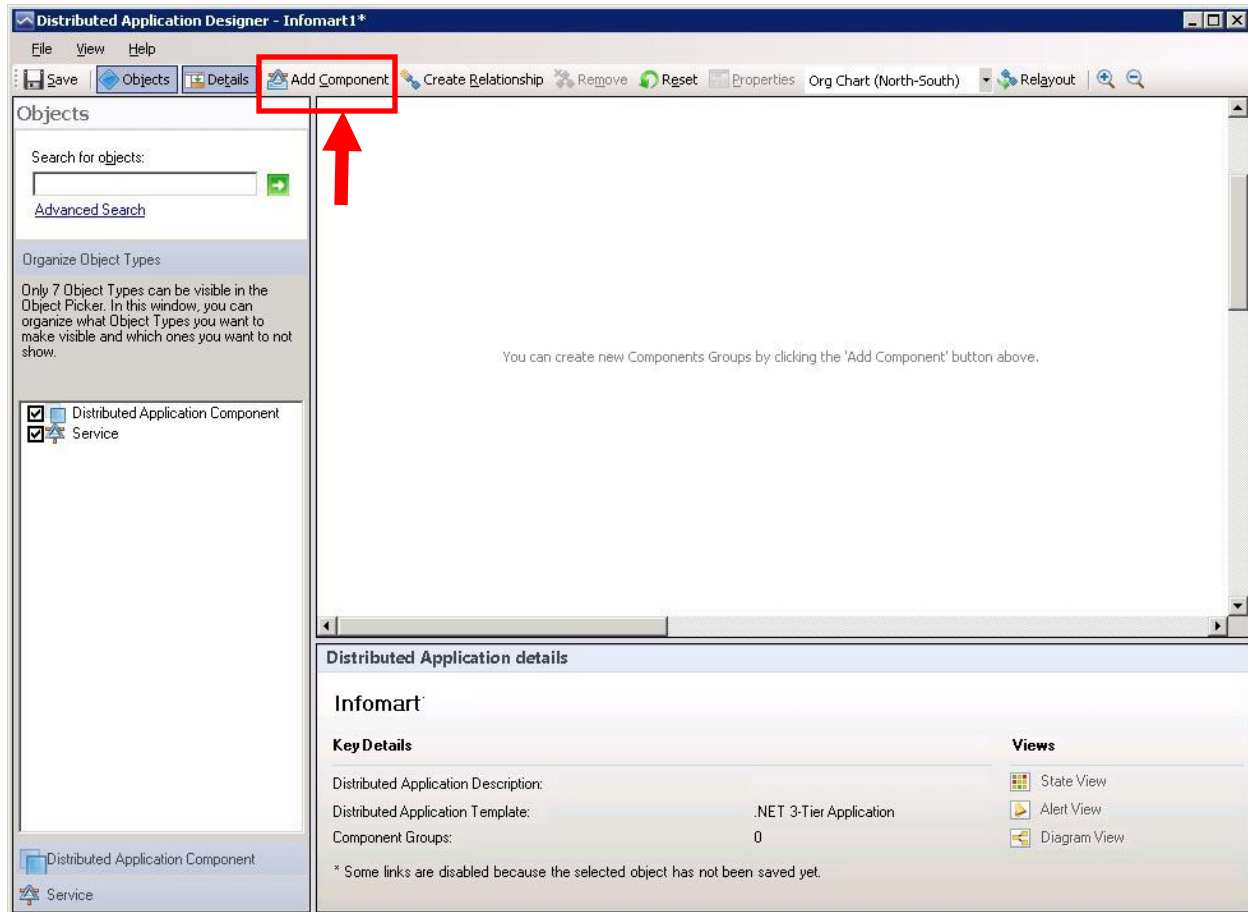
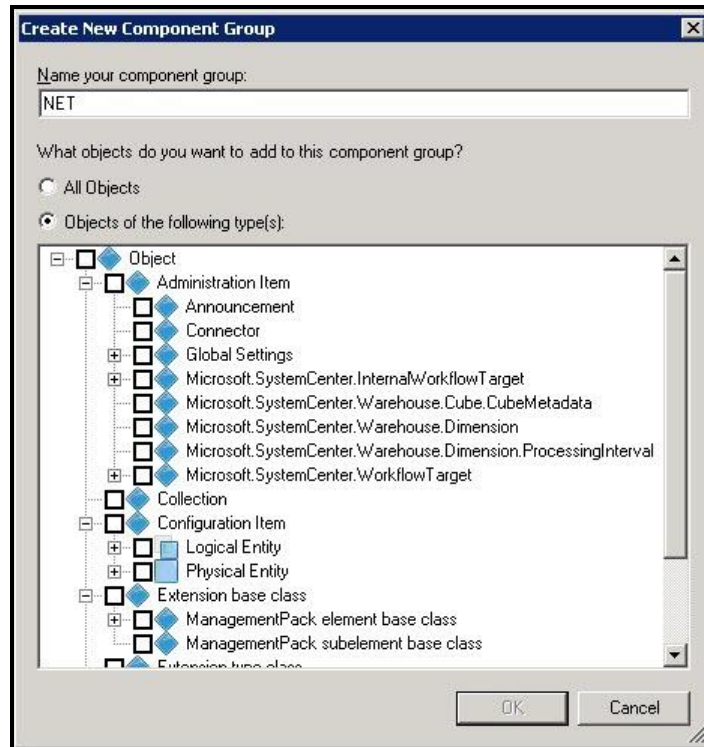
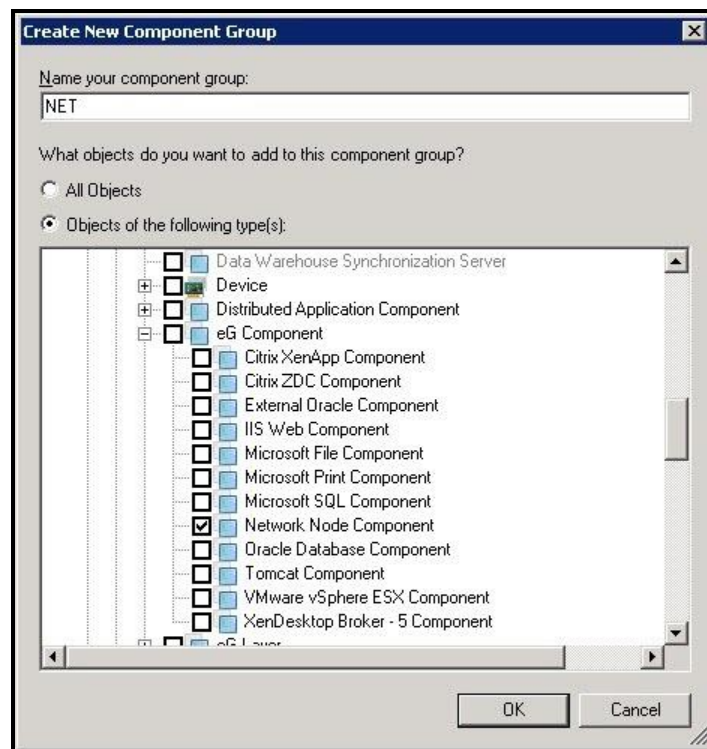

Figure 3.27: A message indicating that new component groups have to be added
Figure 3.28: Naming the component group
Figure 3.29: Selecting the Network Node Component group
5. The **Distributed Application Designer** window will display a default template for constructing the topology of the distributed application. Each 'box' in the default template represents a default component group that you can use in your service topology. As we do not intend to use this default template, delete it by selecting every 'box' in the template and pressing the **Delete** button on the keyboard. Once all the default component groups are removed, you can proceed to add new component groups (see Figure 3.27) using the **Distributed Application Designer** window.
6. To add a new component group, click on the **Add Component** button indicated by Figure 3.27. The **Create New Component Group** dialog box will then appear (see Figure 3.28). Let us begin topology building by adding the *Network Node* component in our example, *infoway_network*. For this, first create the *Network Node* component group using Figure 3.28 and then add the *infoway_network* component to it. To achieve this, first specify the name that you wish to assign to the *Network Node* component group in the **Name your component group** text box in Figure 3.28. For the purpose of our example, let us name this group, **NET**. Then, pick the **Objects of the following type(s)** option in Figure 3.28 and then scroll down the tree-structure below until you find the **eG Component** node (see Figure 3.29). Expand the node, and pick the **Network Node Component** group by selecting the check box alongside. Then, click the **OK** button in Figure 3.29.